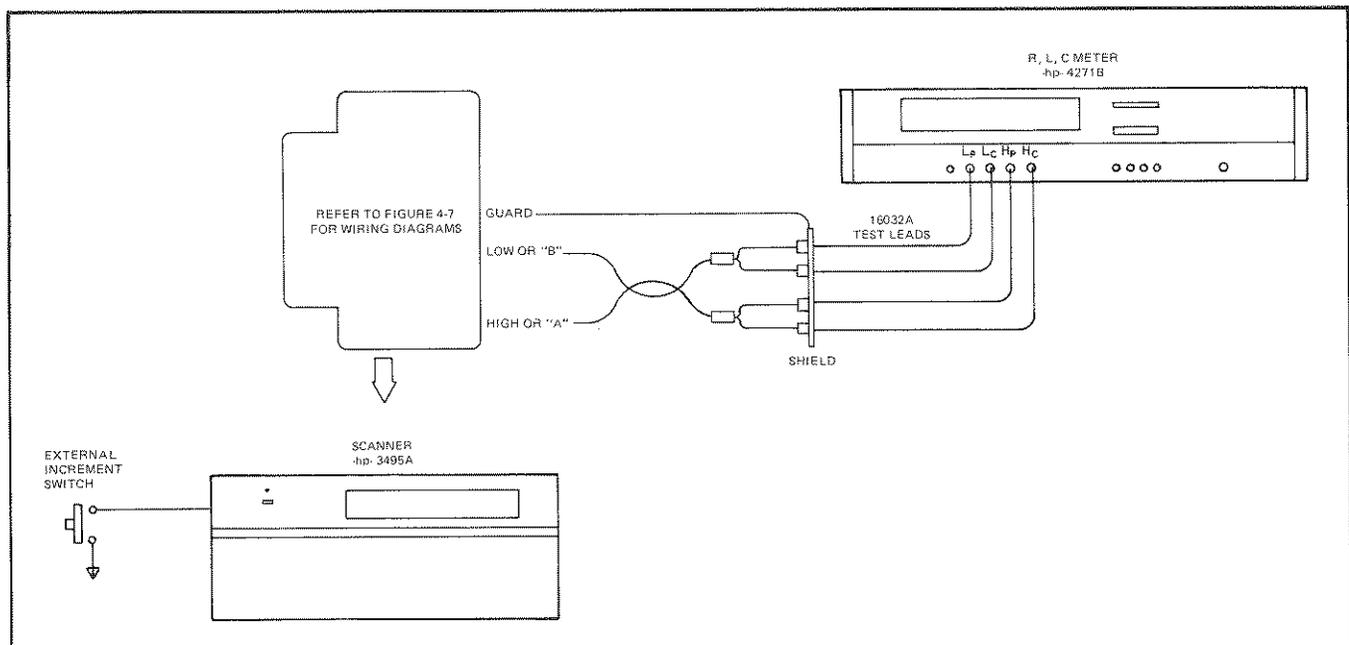

Figure 4-8. Capacitance Test Setup.
- a. Connect the test setup as shown in Figure 4-8. Allow the R L C meter 1 hour warmup time before proceeding.